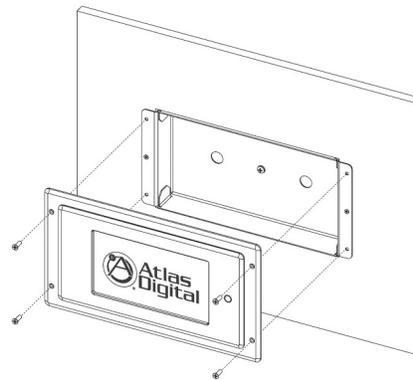

Figure 18
18. Secure the assembly into the wall as shown in Figure 18.